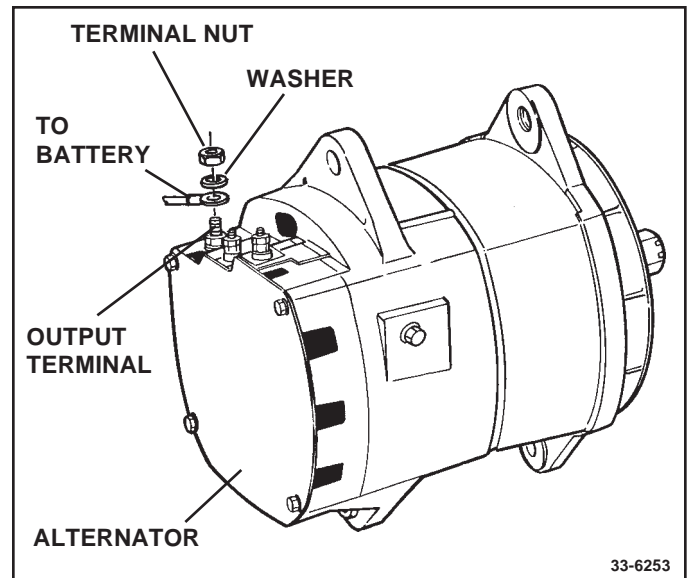

Figure 48. Connecting to Output Terminal
1. Battery lead (112), lead capacitor (116) if required, lockwasher (182) and nut (181) onto output stud (187), labeled "POS" on cover plate (15) finger tight. (See Fig. 48)
2. Relay lead (113), lockwasher (192) and nut (191) onto relay stud (193) labeled "R" on cover plate finger tight, if used.